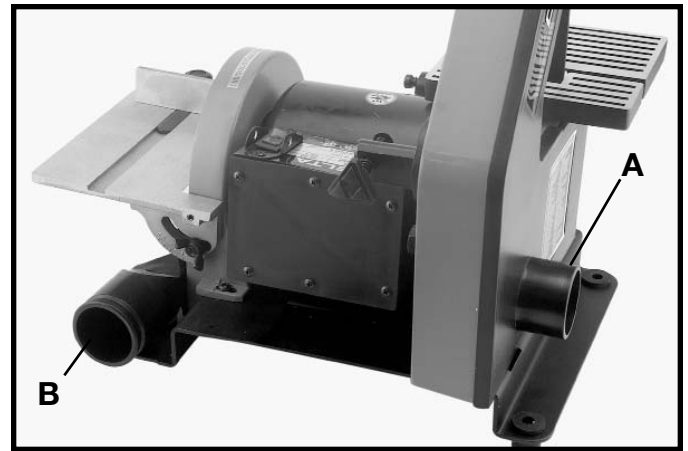

Fig. 28
Two dust chutes are supplied with your belt and disc sander. Equipped with 1-1/2" I.D. openings, these can easily be connected to a dust bag. Dust chute (A) Fig. 28, is for the belt unit while (B) is for the disc unit.